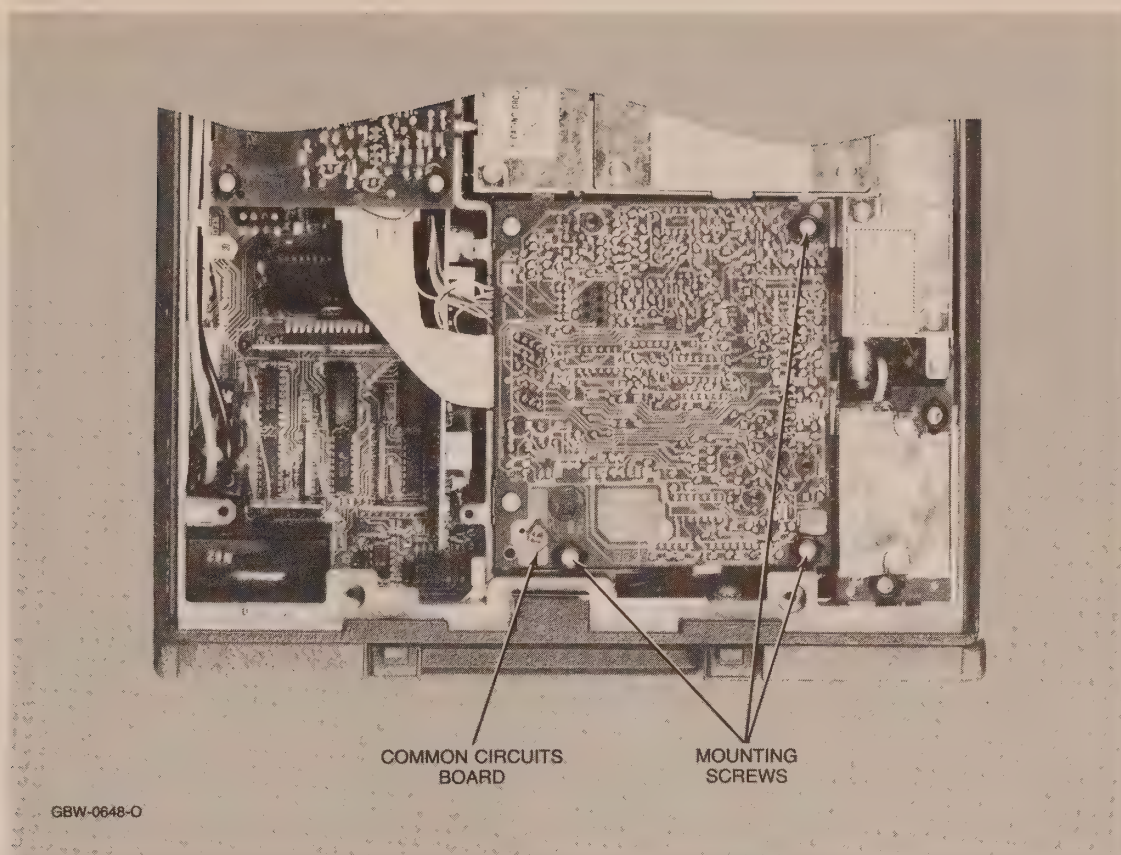

Figure 6. 800-MHz SYNTOR X Radio
(1) Position the radio set with the bottom side up.
(2) Remove the mounting plate (if attached) and the bottom cover.
(3) Loosen the three mounting screws with plastic inserts and turn the common circuits board on its hinges. (See Figure 6.)